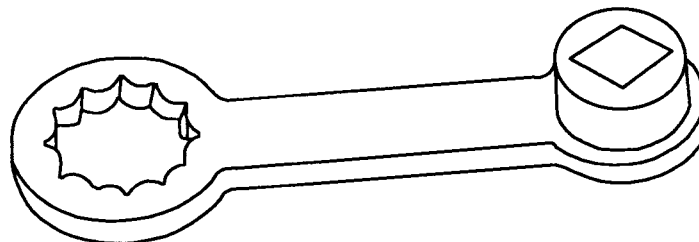

**Figure 4 - Lever Type Extension**
- 4.2.2 Sockets, adapters and extensions, as required (see Figure 2, Figure 3, Figure 4 and Figure 5).
- 5.2.3 A lever type extension is a rigid bar or shape extending longitudinally forward from the axis of, and is attachable to, the drive square to provide accessibility to fasteners. At its extremity, is a drive square for the attachment of sockets (see Figure 4). When lever type extensions are used, it is necessary to calculate for a corrected torque reading due to the increased lever length. Refer to section 5.5 for the torque correction calculation. Only use lever type extensions to torque obstructed fasteners that would otherwise be inaccessible with the torque wrench.